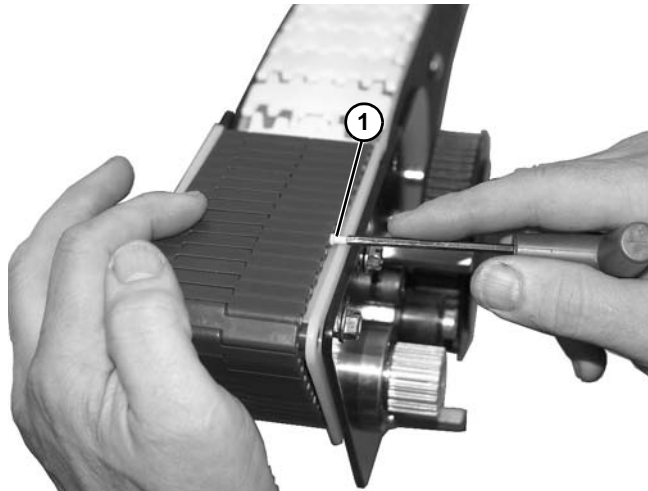

Figure 175
7. Bring ends of belt together and install pin (**Figure 175, item 1**).